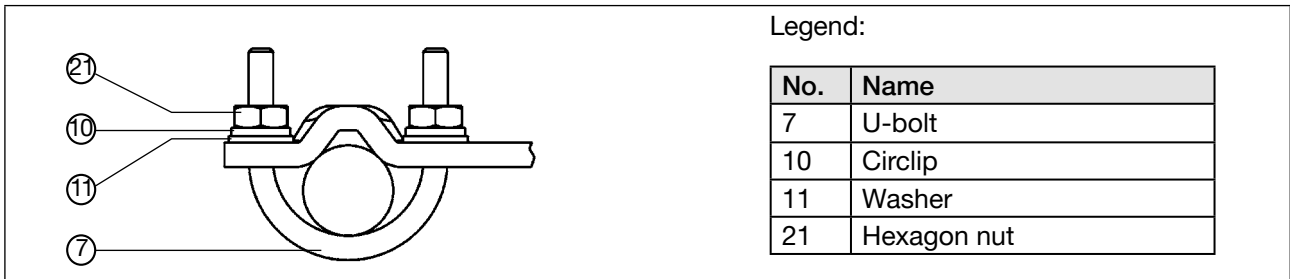

Fig. 17: Attach Type 8792/8793 with mounting bracket; for actuators with columnar yoke
→ Attach mounting bracket to the columnar yoke with the U-bolt (7), washers (11), circlips (10) and hexagon nuts (21) (see “Fig. 17”).